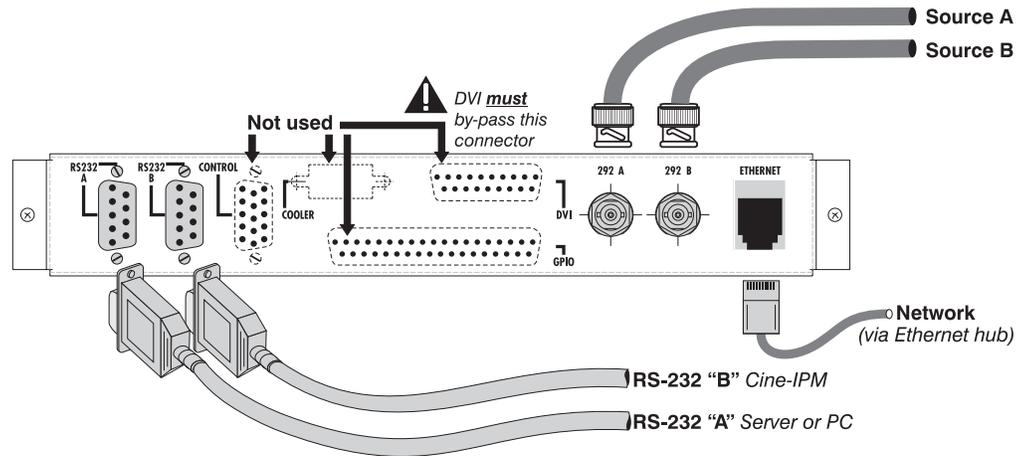

Figure 2.7. Head Connections at “Feed-Through” Plate
7.4 **CONNECT CINEMA INPUT(S):** Connect the desired source cabling to the SMPTE 292 serial digital inputs **A** and/or **B** (cinema) as shown in Figure 2.7.
Do not reverse these—“B” uses different protocol and is for Cine-IPM communications only. See Figure 2.7.
- ❑ **CONTROL CABLING:** All control cabling (RS-232, Ethernet and *Touch Panel Controller* connected to the head as shown in Figure 2.7) should now also be connected to the internal ports on the Communication Panel.